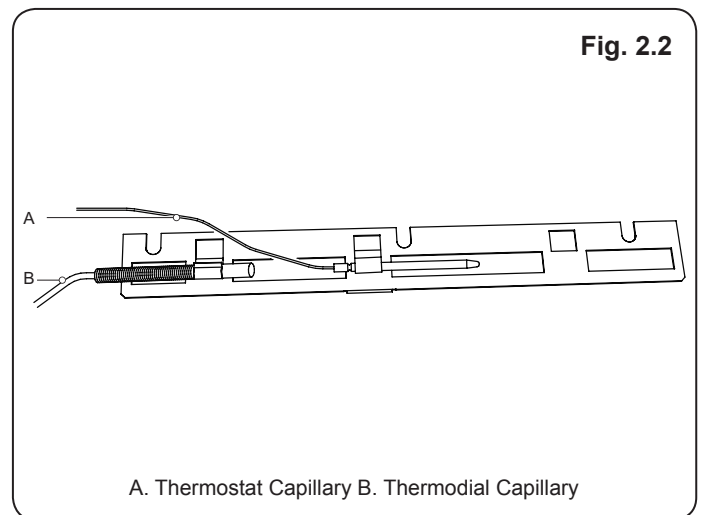

Fig. 2.2
11. Re-fit thermodial & control valve capillaries through guide tube into roast oven. Re-fit to phial mounting plate as shown in **Fig. 2.2**.